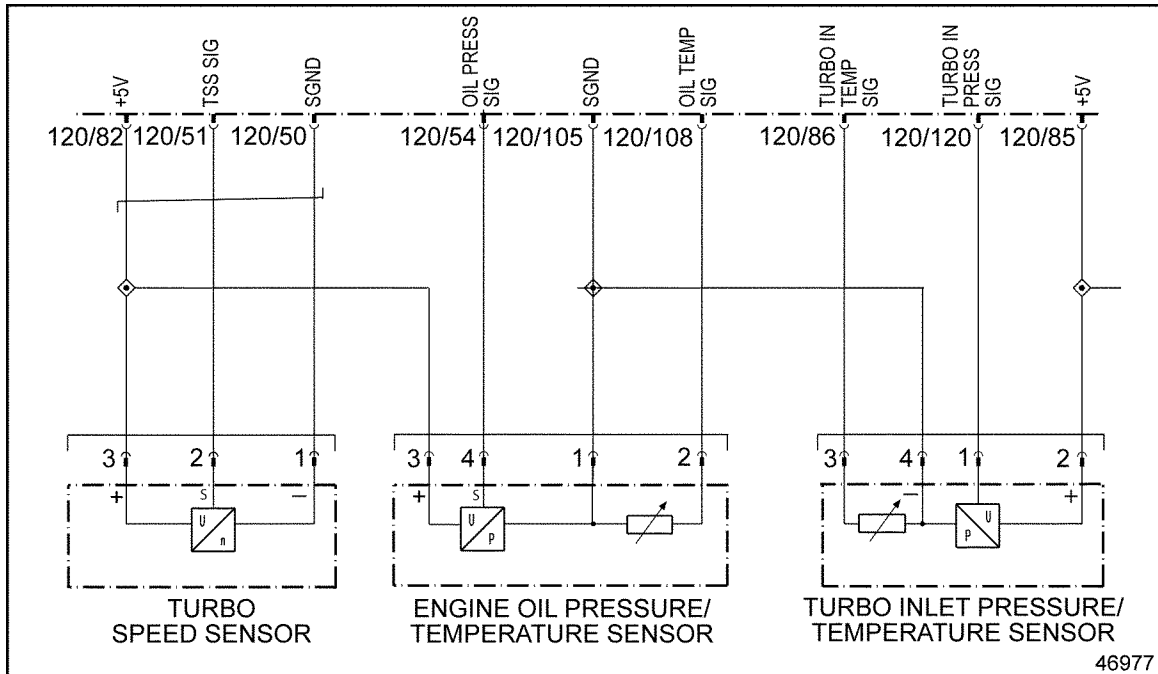

Figure 7-2 Engine Oil Temperature/Pressure Sensor
- [a] If the resistance is greater than 5 Ω , repair the open between pin 4 of the sensor and pin 54 of the MCM 120-pin connector. See Figure 7-2. Refer to section 7.4.2.1.
- [b] If the resistance is less than 5 Ω , repair the short to ground circuit between pin 54 of the MCM 120-pin connector and ground. See Figure 7-2. Refer to section 7.4.2.1.